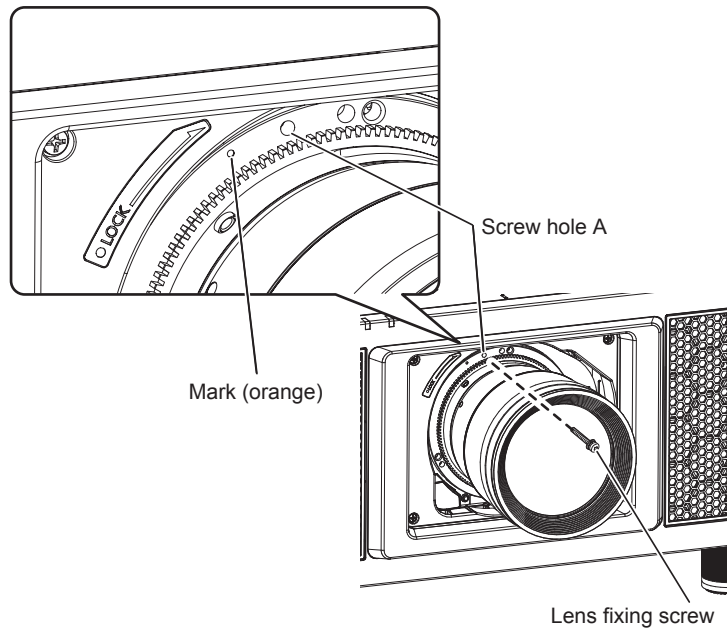

Fig. 2
- 2) **Secure the projection lens with the supplied lens fixing screw. (Fig. 2)**